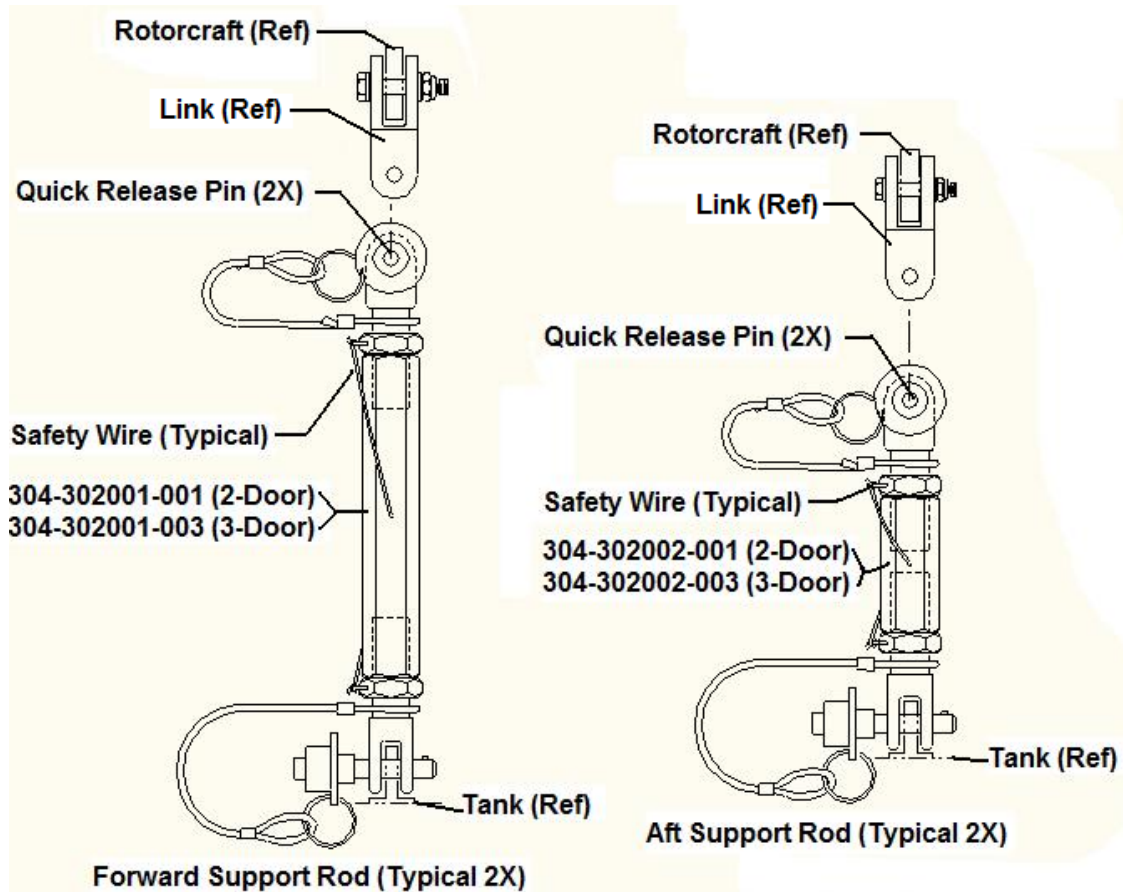

Figure 2: Support Rod Details
3. Remove four (4) hardpoint links from rotorcraft brackets by removing bolts, washers and nuts (Figure 2). Discard.
5. Remove tank support rods from corner brackets (Figure 2) by pulling quick release pins from tank brackets.